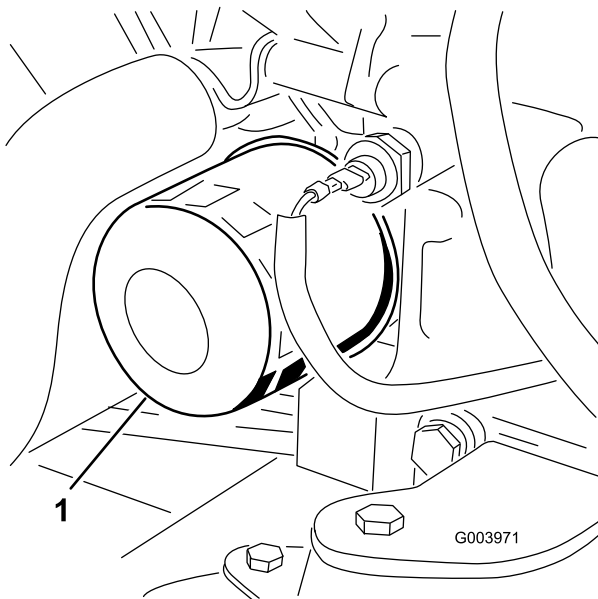

Figure 61
3. Remove the oil filter (Figure 61).